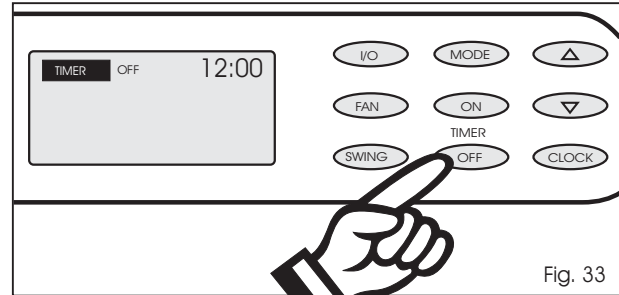
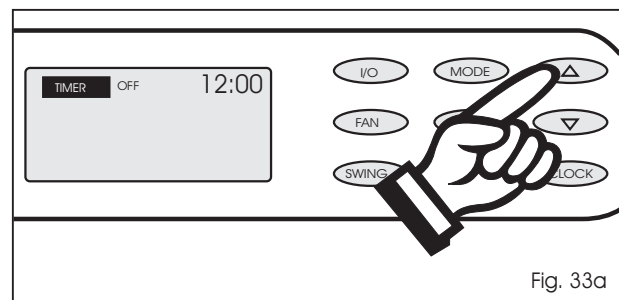

Fig. 33
Fig. 33a
- 2) Press the **TIMER-OFF** key pad to initiate the **AUTO-OFF** time sequence. Fig. 33. The display window will indicate **TIMER-OFF** and the word **OFF** will flash for 5 seconds. Press the  $\Delta$  or  $\nabla$  key pad to select the desired **AUTO-OFF** start. Fig.33a.
2) Press the **AUTO-OFF** key pad to initiate the **AUTO-OFF** time sequence. (Fig.33). The display window will indicate **TIMER-OFF** and the word **OFF** will flash for 5 seconds. Press the  $\Delta$  or  $\nabla$ key pad to select the desired **AUTO-OFF** time.(Fig. 32a).